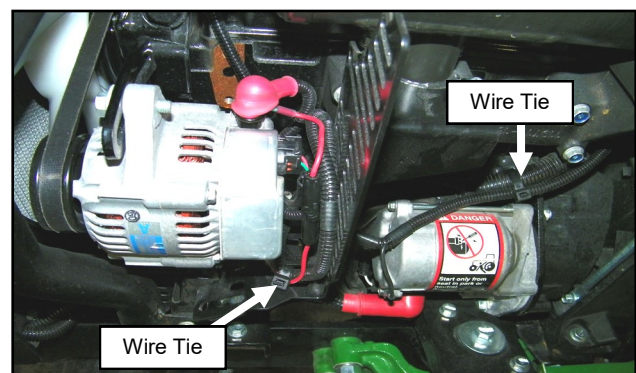

Fig. 7.6 (Secure Wire Harness)
- 7.6 Route the power harness inside the bracket behind the alternator and connect the bullet terminals of the power harness and the fuse wiring harness. Loop the slack in the power harness behind the alternator and secure with a wire tie. See Figure 7.6. Double check that the wires are not pinched or near sharp or hot surfaces.